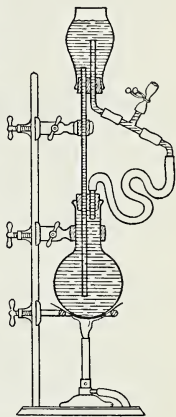

Fig. 205.
*Materials:* Apparatus arranged as in Figure 205. Fill with water, using the funnel tube to fill the tubes.